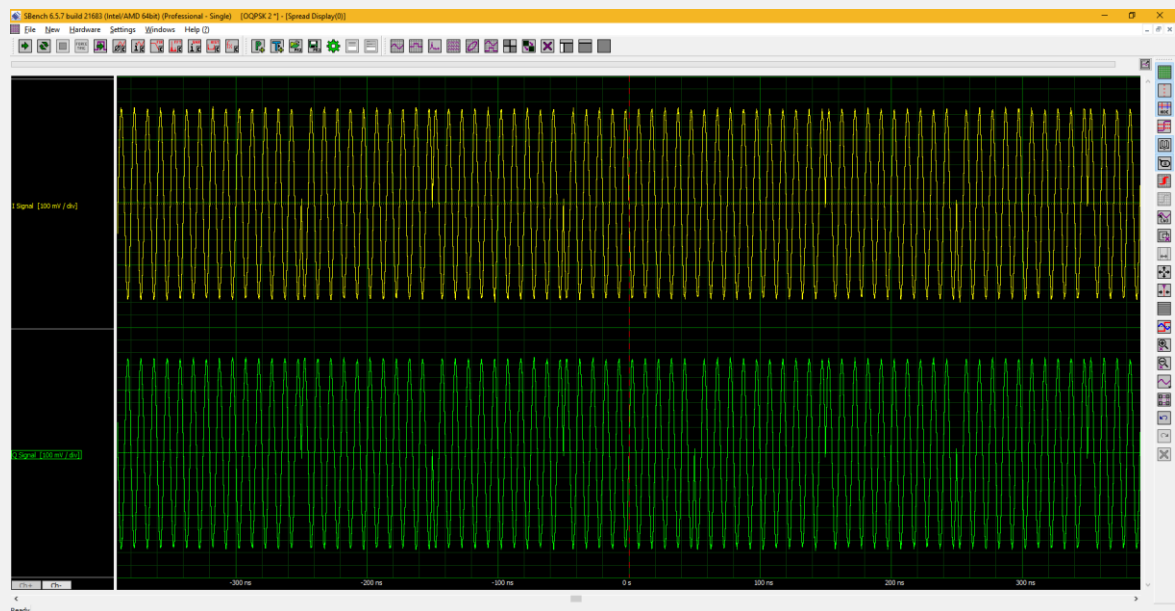

Figure 10: The I and Q components of a QPSK-encoded signal are combined to produce a signal with four data states.
The DDS option also permits the generation of phase-modulated signals. Quadrature modulation is based on phase modulation and is used in data communications systems. Quadrature phase shift keying (QPSK) is a modulation scheme that encodes two bits per transmitted symbol. It is generated by creating two binary phase shift keyed (BPSK) data streams, called the in-phase (I) and quadrature (Q) data streams. The I and Q signals are summed in quadrature to produce the QPSK signal. These signals encode the two binary states with a 180-degree difference. The DDS option can easily produce these waveforms as shown in Figure 10.